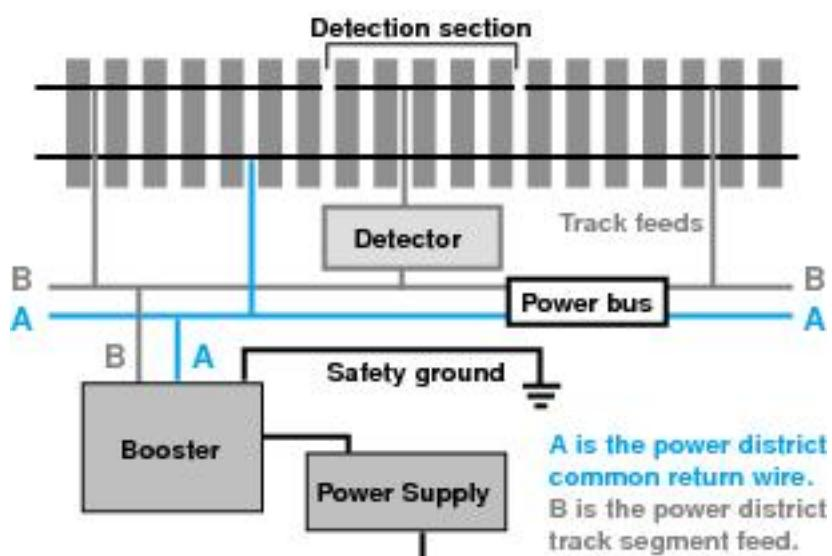

Figure 4-7 : Wiring for a single power district
Each power district that powers the rails is wired as shown in **Figure 4-7**. The long wires used to carry the power from the booster around the district to the rails are called the power bus. The short wires running from the power bus to the rails are called the track feeds. The approximate operating current for the Norcross Southern is 4.5 amps and the maximum wiring run for the power bus will not exceed 25 feet out and back. **TABLE 4-1** shows the recommended wire gauges for power buses for various operating currents and distances. Since the operating current of the layout is near 5 amps, to allow for a modest increase in the future, 16 gauge wire is used for the power bus. The track feeders are kept as short as possible. They are spaced 6 to 10 feet apart along the rails and made from 22 to 24 gauge wire. Digitrax boosters have a safety ground which should be connected to a cold (electrically) metal water pipe or to the third prong earth of the house supply. If the safety ground is connected properly, you won't fry the system, the cat or innocent bystanders. If you are not sure how to connect the safety ground, by all means, call a professional to handle this important safety precaution.
**Figure 4-7** shows the two power bus wires labeled A and B. A is the power district common return and B is the supply wire to the various track segments within the power district. Occupancy detectors are inserted into the track feeder wires from the B side of the power bus and the rails connected to these feeders are single gapped to create detection sections. Each separate power district uses a separate power district common return.